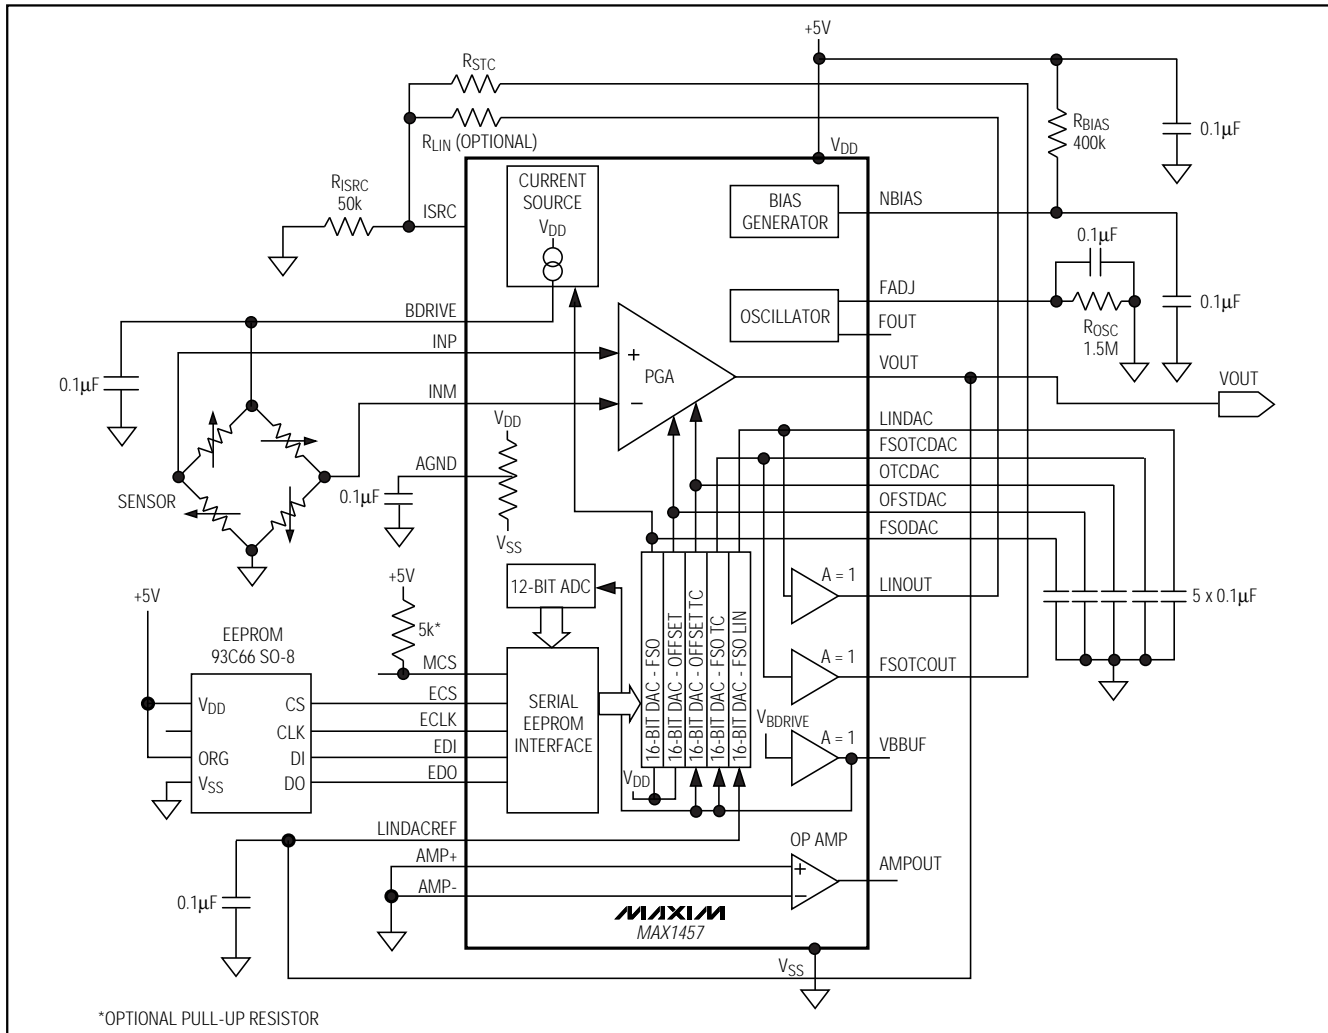

Figure 5. Basic Ratiometric Output Configuration
**Note 1:** Circuit of Figure 5 with current source turned off. This value is adjustable through a bias resistor and represents the IC current consumption. This excludes the 93C66 EEPROM average current, which is approximately 13μA at a refresh rate of 3Hz (fCLK = 100kHz).
The MAX1457 has been designed to provide a high-performance ratiometric output with a minimum number of external components (Figure 5). These external components typically include an external EEPROM (93C66), decoupling capacitors, and resistors.